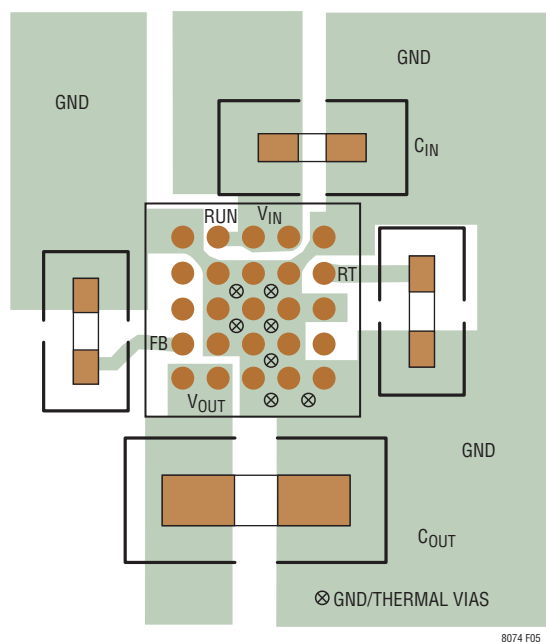

Figure 5. Layout Showing Suggested External Components, GND Plane and Thermal Vias
Most of the headaches associated with PCB layout have been alleviated or even eliminated by the high level of integration of the LTM8074. The LTM8074 is nevertheless a switching power supply, and care must be taken to minimize EMI and ensure proper operation. Even with the high level of integration, you may fail to achieve specified operation with a haphazard or poor layout. See Figure 5 for a suggested layout. Ensure that the grounding and heat sinking are acceptable.
6. Use vias to connect the GND copper area to the board's internal ground planes. Liberally distribute these GND vias to provide both a good ground connection and thermal path to the internal planes of the printed circuit board. Pay attention to the location and density of the thermal vias in Figure 5. The LTM8074 can benefit from the heat-sinking afforded by vias that connect to internal GND planes at these locations, due to their proximity to internal power handling components. The optimum number of thermal vias depends upon the printed circuit board design. For example, a board might use very small via holes. It should employ more thermal vias than a board that uses larger holes.